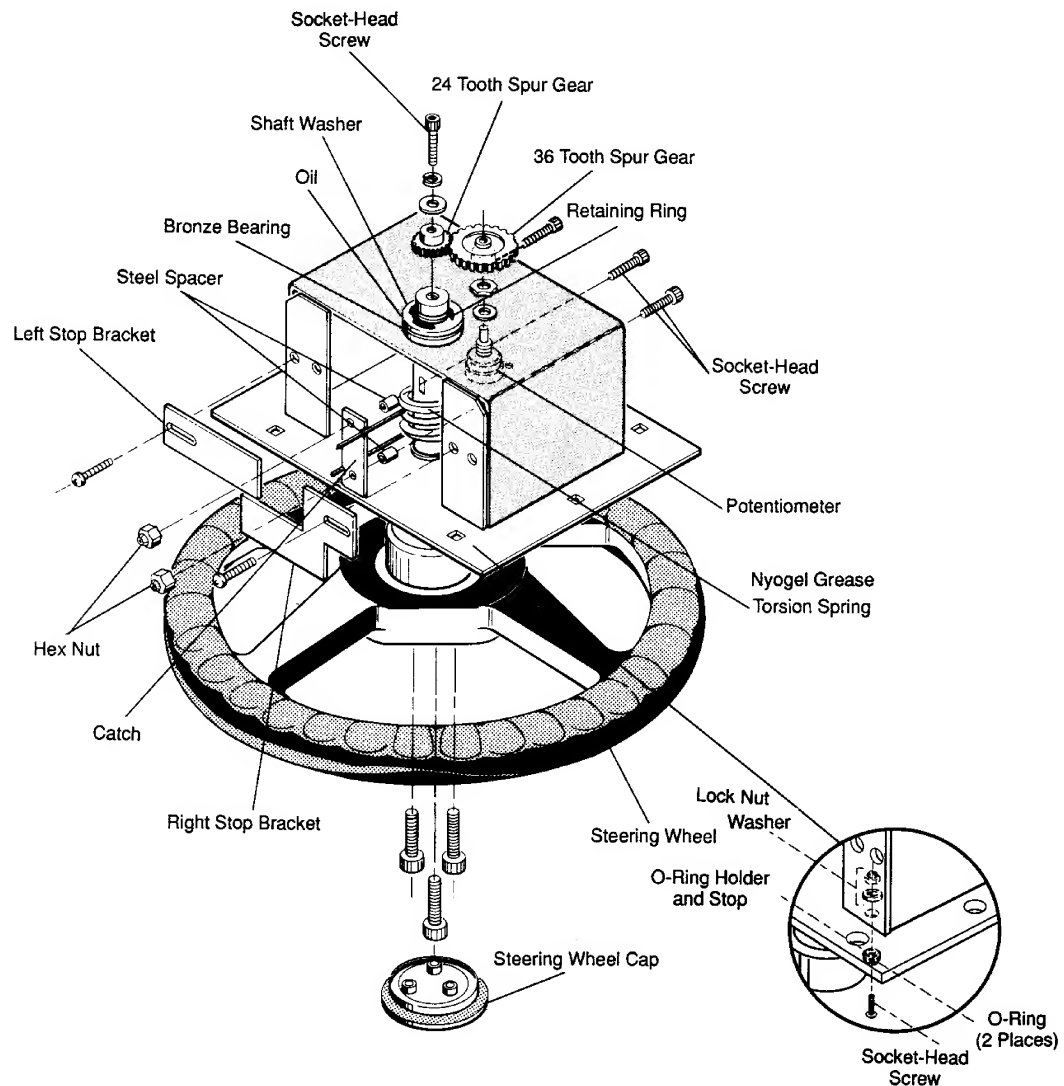

Figure 3-2 Maintaining the Steering Wheel Assembly
1. When the control panel is open, the two stop brackets on the steering assembly face out. See Figure 3-2.
2. Use a 3/16-inch Allen head wrench to tighten the screw on the end of the steering shaft. See Figure 3-2. Make sure it is torqued to 95 inch-pounds.
catch, which keeps the spring in tension. See Figure 3-2.
1. Take off the gear on the steering wheel shaft by removing the socket-head screw on the end of the shaft. See Figure 3-2.
If the steering wheel hits metal when it turns, the O-rings on the steering wheel stop must be replaced. See Figure 3-2.
If the steering wheel does not snap back to the center when you turn it, you may need to replace the stop and the spring. See Figure 3-2.
1. Open the control panel. See Figure 3-2.